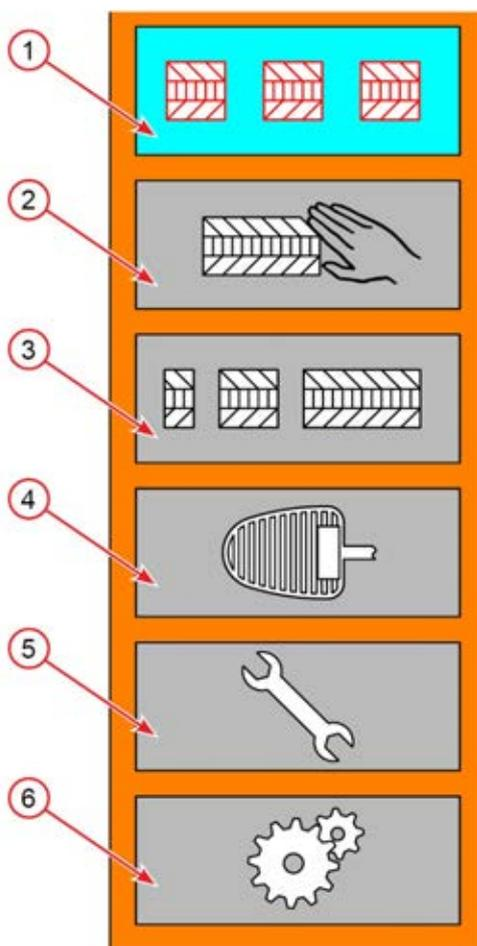

Figure 27 Menu Bar
- e. **Step 5:** Lift and curve the paper edge on the front edge of the wheel and push the paper in (refer to Figure 27).